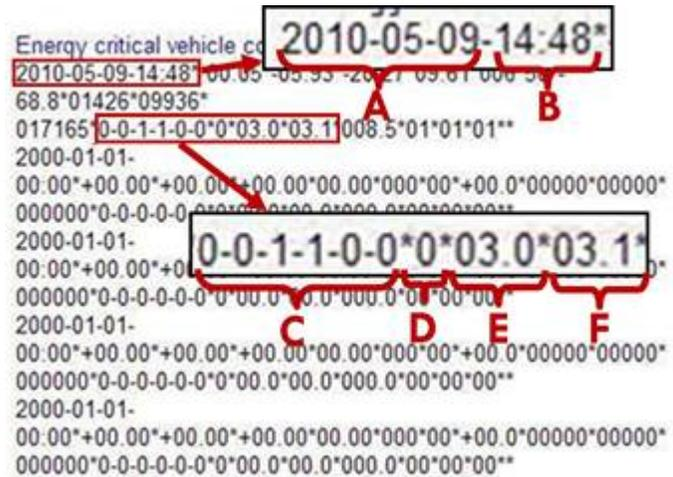

Figure 6. Energy critical vehicle conditions readout.
7. Inspect the values in the **Energy critical vehicle conditions** readout, paying close attention to the highlighted areas shown in the image at right (Figure 6). These areas show information about the critical energy state of the battery, with battery history fields separated by an asterisk. Fields include:
- The date the critical energy state occurred (A). This example shows May 9, 2010.
- The time the critical energy state occurred (B). This example shows 2:48 PM.
- The status of the exterior lights when the critical energy state occurred (C). This example shows that two exterior lights were on when the battery reached critical state.
- The status of PRNDL (D). This example shows that vehicle was in "P" when the critical energy state occurred. Any gear other than "P" would be represented by a "1".